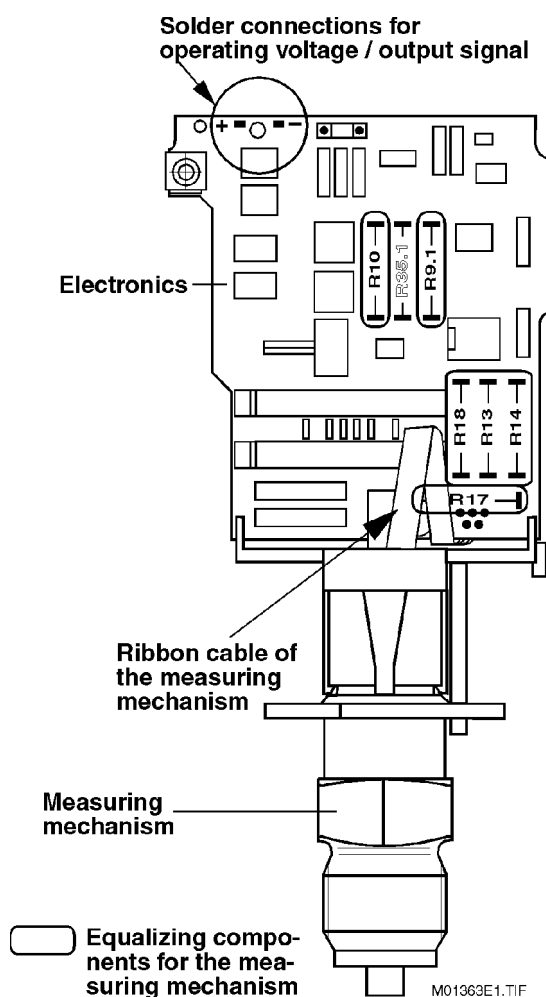

Fig. 29. Component side of the Measuring Mechanism / electronic unit of the AMD 210
6. Resolder the **equalizing components for the measuring mechanism** (Fig. 29) from the defective electronic pcb onto the new one. Observe the soldering instructions.
7. If **resistor R 9.1** is not soldered in on the defective electronic pcb (see Fig. 29), then R9.1 is to be cut out of the new electronic pcb.
3. Unsolder R10, R17, R18 and either R13 or R14 (Fig. 29, equalizing components for the measuring mechanism).
7. Solder the **equalizing components** supplied with the measuring mechanism into the corresponding places on the electronic pcb (Fig. 29, equalizing components for the measuring mechanism). Observe the soldering instructions!